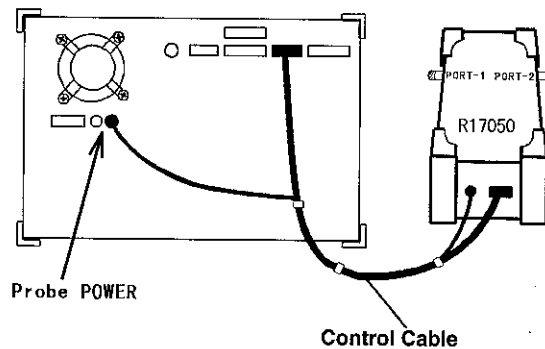

Figure 2-10 Connecting the Control Cable
1. Connect the control cable between the instrument and network analyzer. There are two Probe POWER connectors on the network analyzer. Either of them can be used (see Figure 2-10).